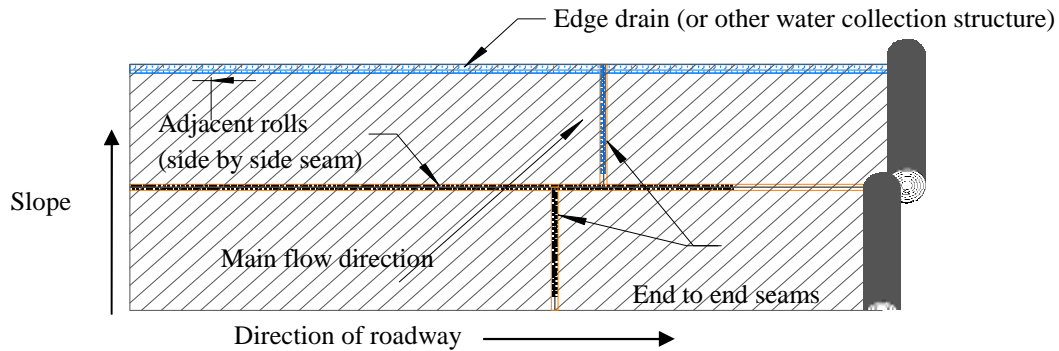

Figure 2. Typical Panel Layout
3. Whenever possible, Roadrain-T should run parallel to the direction of the roadway as shown in figure 2.